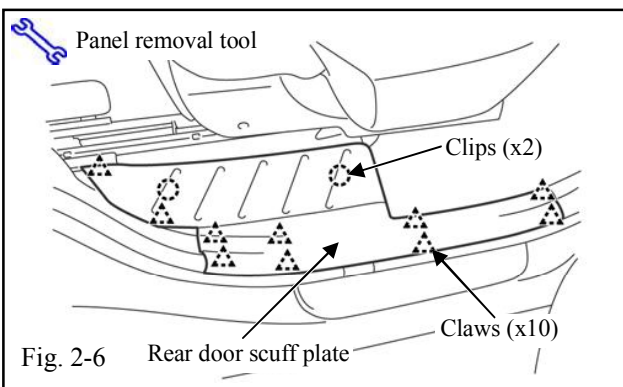

Fig. 2-6
(1) Disengage the claw and two (2) clips to remove lower glove box trim.
(e) Disengage ten (10) claws and two (2) clips and remove the right side rear door scuff plate. (Fig. 2-6)